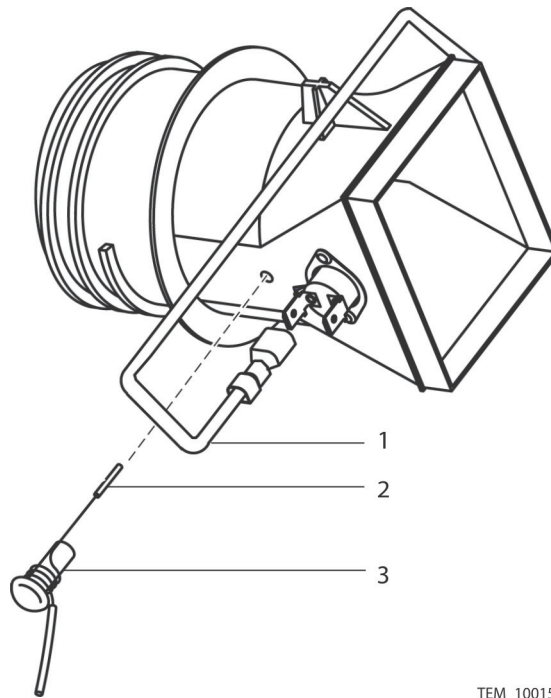

Figure 57. Thermistor Removal
3. Carefully detach the thermistor rivet (Figure 57, item 3) and slide the thermistor (Figure 57, item 2) out of the duct adapter assembly.
4. Detach the wires from the two thermostats on the side of the duct transition. Leave the jumper wire connecting the two thermostats (Figure 57, item 1) in place.
12. Carefully reinsert the thermistor into the duct adapter assembly. See Figure 57, item 1.